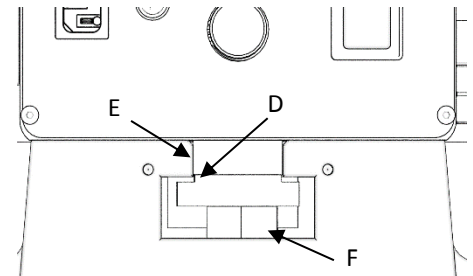

Fig. 2
8. Slide headstock, toolrest, and tailstock onto bed, ensuring lock plate (D) is correctly lined up with bed way (E), as shown in Fig. 2.